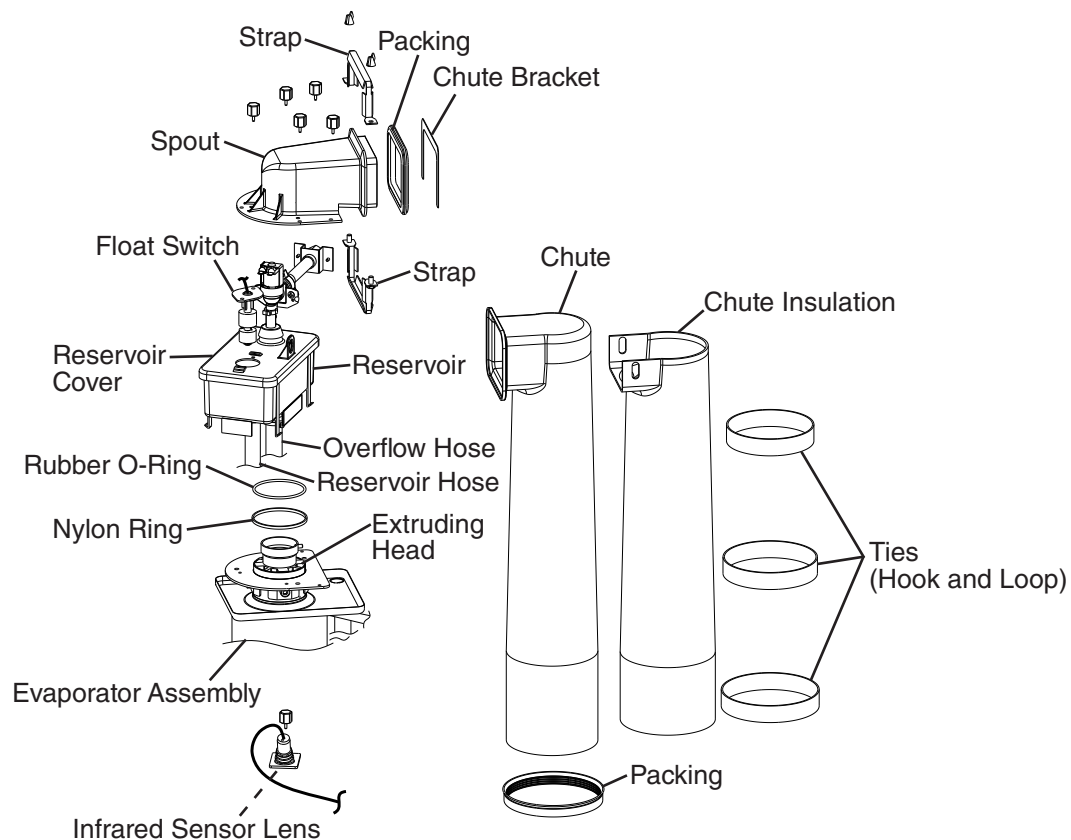

Fig. 17
- 6) Remove the strap connecting the spout to the chute assembly, then remove the spout. See Fig. 17.